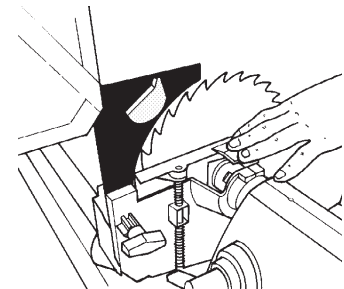

Figure C-67
83. Make sure the riving knife is fully seated between the guard and the lock plate, as in Figure C-67. The curved portion of the riving knife should be very close to the saw blade teeth (about 1/8"), as illustrated in Figure C-68. Tighten the guard lock knob). Look to see if the riving knife is centered with the saw blade, as shown in Figure C-69.